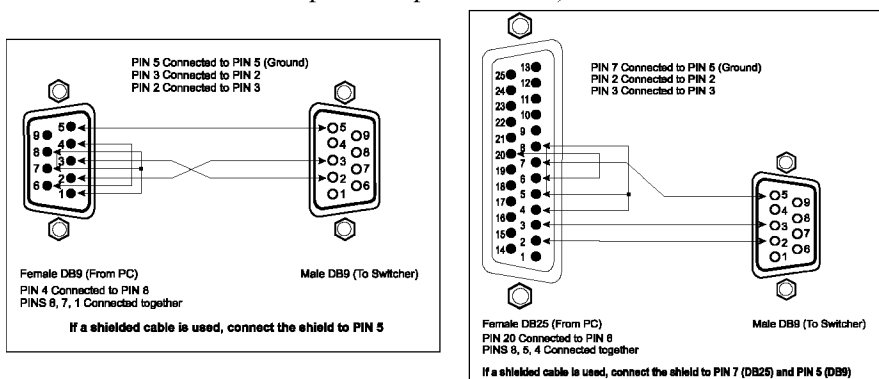

Figure 3: Connecting a PC without using a Null modem Adapter
- Connect the RS-232 DB9 port on your PC to the RS-232 DB9 rear panel port on the **VS-402xl/VS-602xl** unit, as Figure 3 illustrates (depending on whether the PC has a 9-pin or 25-pin connector)